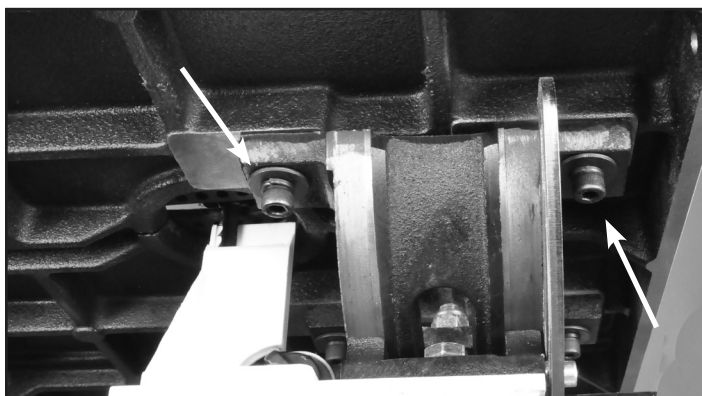
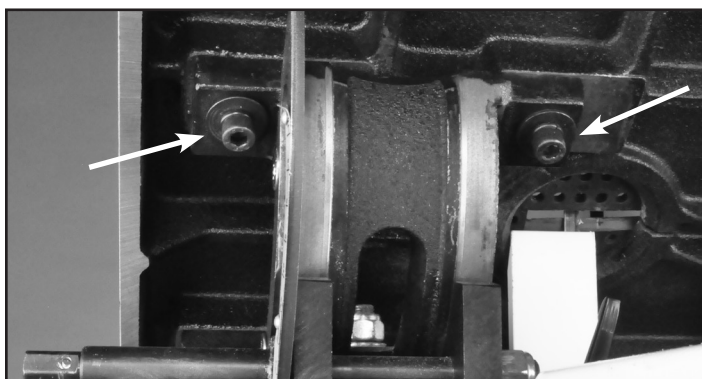

FIGURE 2
FIGURE 3
3. Attach the table to the trunnion with the four Hex Socket Cap Screws, Spring Washers and Washers (Parts #20C, 21C, 22C) Install two bolts to the right of the blade, hand tightened only. Fig. 2. Then tip the table to 45 degrees and install the two bolts to the left of the blade. Fig. 3. **DO NOT** fully tighten the bolts at this time. Return the table to the horizontal position.